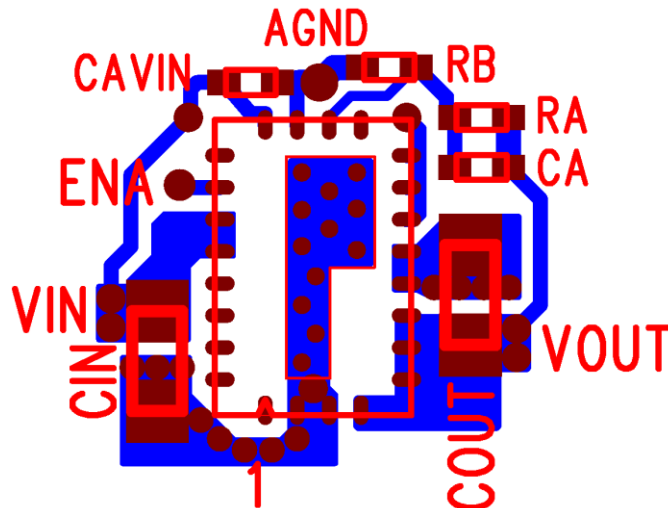

Figure 9: Optimized Layout Recommendations
**Recommendation 5:** AVIN is the power supply for the small-signal control circuits. It should be connected to the input voltage at a quiet point. In Figure 9 this connection is made at the input capacitor. Place a 1µF capacitor from the AVIN pin to AGND right next to device pins.
Only the two large thermal pads and the perimeter leads are to be mechanically/electrically connected to the PCB through a SMT soldering process. All other exposed metal is to remain free of any interconnection to the PCB. Figure 9 shows the recommended PCB metal layout for the EN5329QI package. A GND pad with a solder mask "bridge" to separate into two pads and 24 signal pads are to be used to match the metal on the package. The PCB should be clear of any other metal, including traces, vias, etc., under the package to avoid electrical shorting.